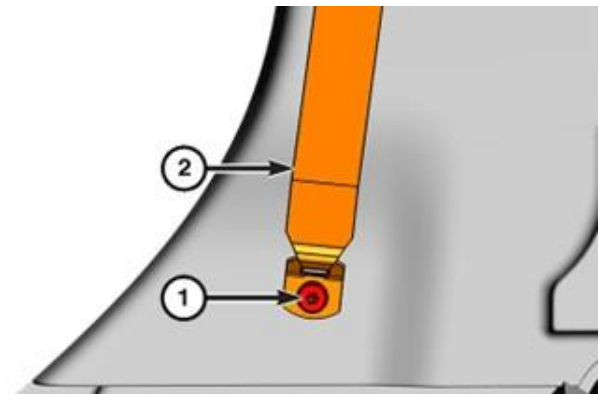

Figure 14 – C-Pillar Seat Belt Anchor
7. Remove and **DISCARD** the bolt securing the rear outboard seat belt anchor to the vehicle (Figure 14).
22. Install the rear seat belt retractor lower anchor and tighten the **NEW** fastener to 40 N·m (30 Ft. Lbs.) (Figure 14).